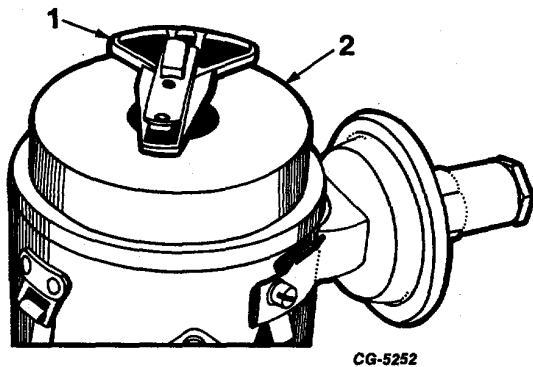

Fig. 11. Distributor Rotor and Dielectric Shield (Dust Cover).
1. Remove rotor and dielectric shield ("dust cover") (Figure 11)